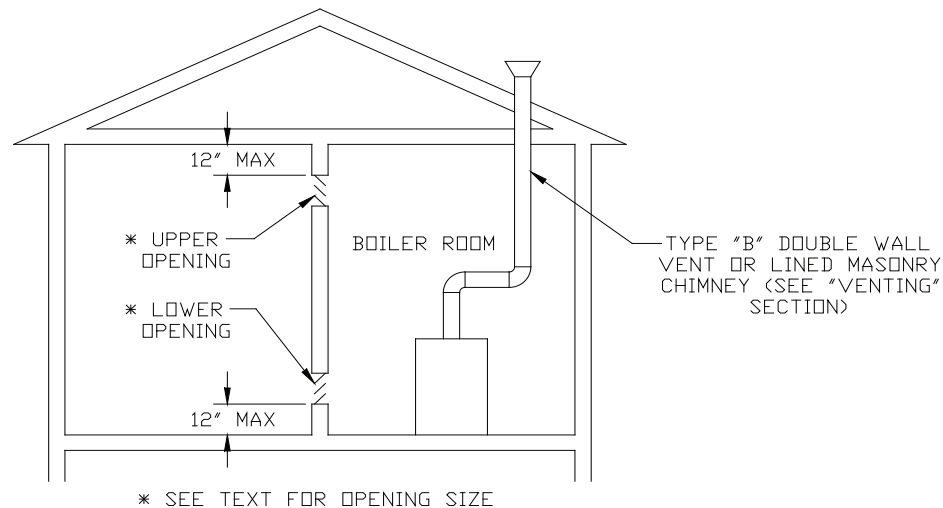

FIGURE 5.1: INDOOR COMBUSTION AIR METHOD
- 4) If the result is at least 50 ft³ per 1000BTU/hr, and neither of the conditions described in (6) below are met, normal infiltration should provide adequate fresh air into the boiler room.
- 5) If the result is less than 50 ft³ per 1000BTU/hr, provide two openings into the boiler room, one near the floor and one near the ceiling. The top edge of the upper opening must be within 12” of the ceiling and the bottom edge of the lower opening must be within 12” of the floor (Figure 5.1):